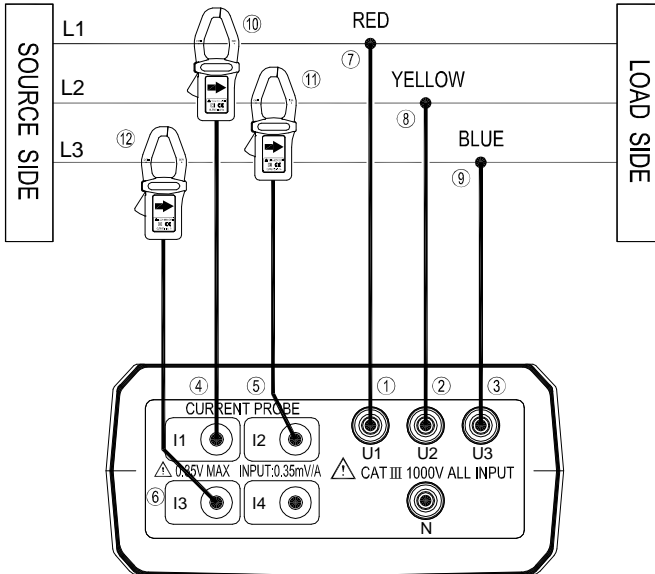

Figure 11. 3P3W3M Wiring Connection Diagram
- ① Connect the red voltage test lead to the “U1” terminal.
- ② Connect the yellow voltage test lead to the “U2” terminal.
- ③ Connect the blue voltage test lead to the “U3” terminal.
- ④ Connect the I1 current probe to the “I1” socket.
- ⑤ Connect the I2 current probe to the “I2” socket.
- ⑥ Connect the I3 current probe to the “I3” socket.
4. Connect the voltage test leads and current probes to the electrical equipment to be tested as shown in Figure 11. 3P3W3M Wiring Connection Diagram
- ① Connect the black voltage test lead to the "N" terminal.
- ② Connect the red voltage test lead to the "U1" terminal.
- ③ Connect the yellow voltage test lead to the "U2" terminal.
- ④ Connect the blue voltage test lead to the "U3" terminal.
- ⑤ Connect the I1 current probe to the "I1" socket.
- ⑥ Connect the I2 current probe to the "I2" socket.
- ⑦ Connect the I3 current probe to the "I3" socket.
- ⑧ Connect the I4 current probe to the "I4" socket.
4. Connect the voltage test leads and current probes to the electrical equipment to be tested as shown in Figure 11. 3P4W Wiring Connection Diagram.
- ⑨ Connect the black voltage test alligator clip to the neutral conductor "N".
- ⑩ Connect the red voltage test alligator clip to Phase 1 "L1".
- ⑪ Connect the yellow voltage test alligator clip to Phase 2 "L2".
- ⑫ Connect the blue voltage test alligator clip to the Phase 3 "L3".
- ⑬ Clamp the I1 current probe securely around Phase 1 "L1".
- ⑭ Clamp the I2 current probe securely around Phase 2 "L2".
- ⑮ Clamp the I3 current probe securely around Phase 3 "L3".
- ⑯ Clamp the I4 current probe securely around the neutral conductor "N".